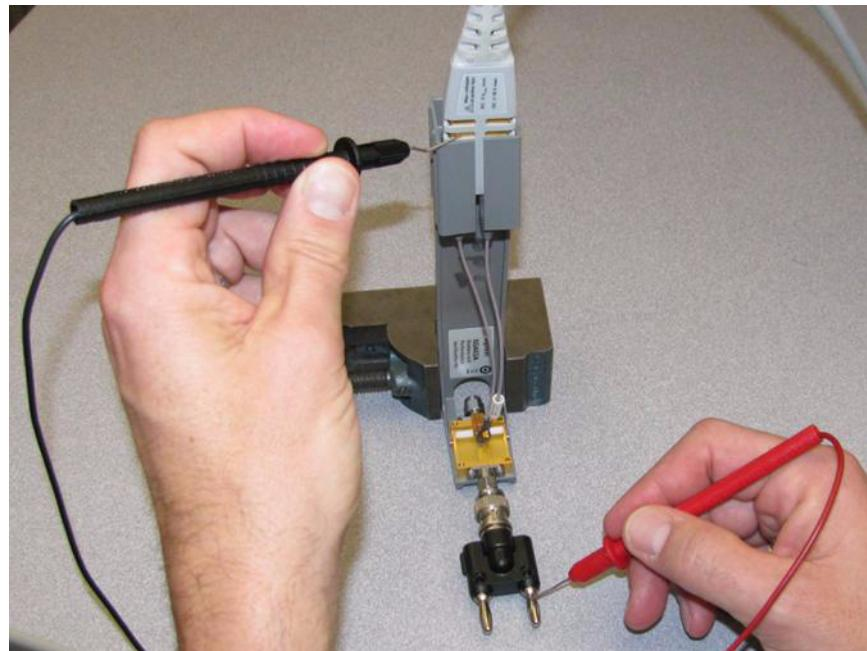

Figure 10 Measuring the single-ended input resistance of a ZIF or solder-in probe head
- 7 To measure the single-ended input resistance, measure the resistance between the signal plug of the banana adapter and the probe amplifier ground, which can be accessed as shown in Figure 10 (through the vent window of the probe amplifier).